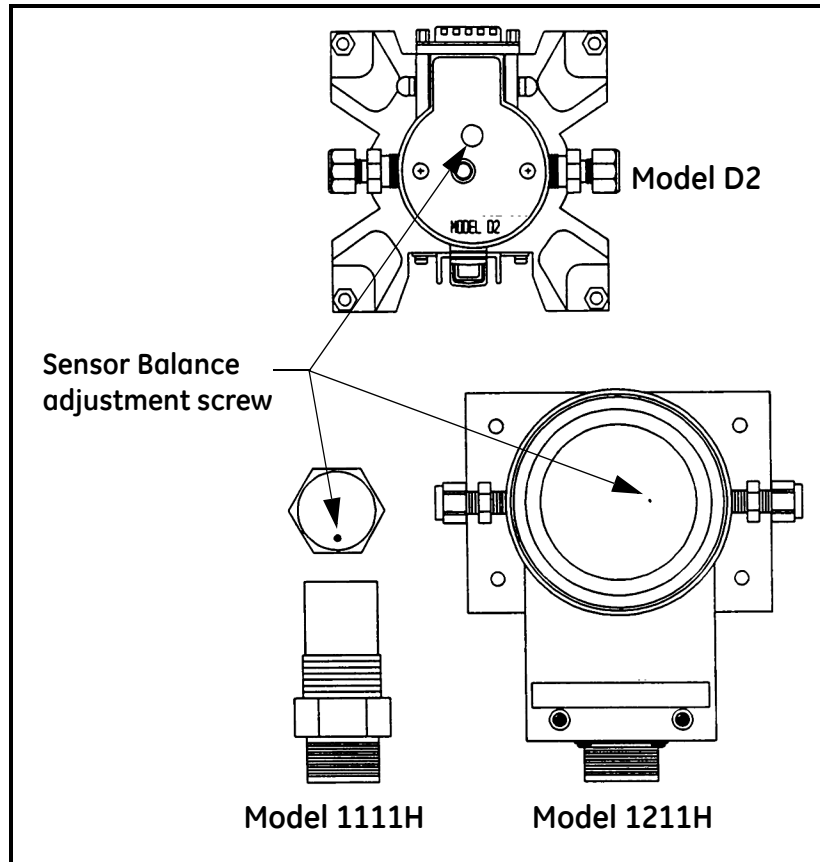

Figure 5-3: Balance Adjustment Screw Locations
5. If the square is not in the center of the balance bar, use the screw or hex driver to adjust the optical bias screw (shown in Figure 5-3 below) on the sensor until the marker is in the center of the bar. You are performing a coarse balance adjustment.